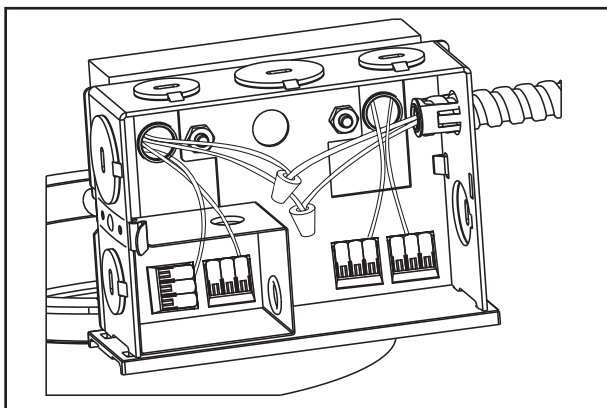

Figure 14
3. Remove one of the junction box covers. Connect supply lead wires to lead wires of driver as per Wiring Diagram and in accordance with your local electrical code(s) or N.E.C. (Figure 14.).
2. Remove junction box cover (Figure 14.).